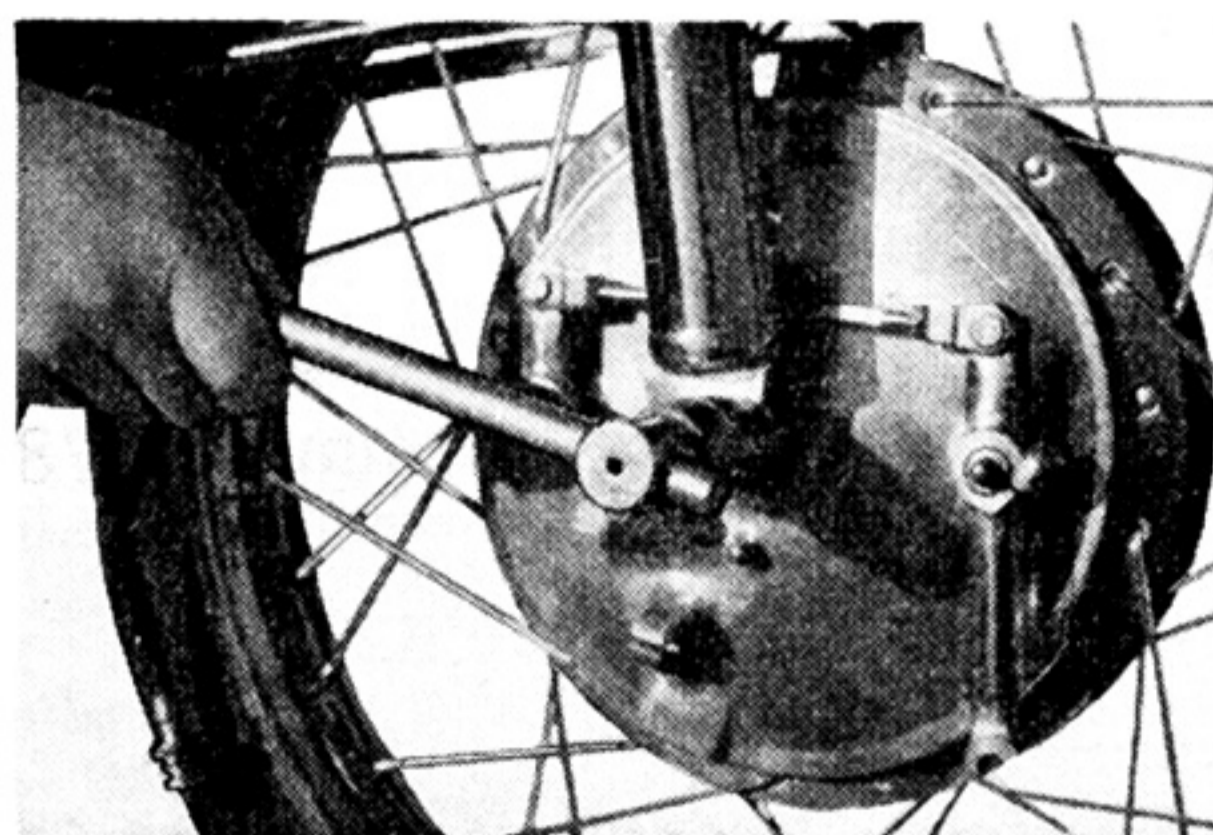

Fig. 4-1-3
- b. Remove the front wheel shaft nut. (Fig. 4-1-3)